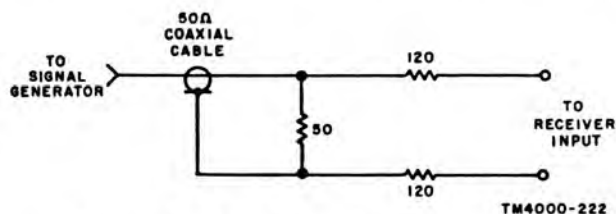

Figure 25. Impedance-matching network.
c. An impedance-matching network can be used to match the signal generator to the receiver input. An example is shown in figure 25. The coaxial cable sees the 50 ohms in the 50-ohm resistor, and the receiver input sees the total resistance of the three resistors in series. The total resistance is 290 ohms, which is a very close match for 300 ohms.